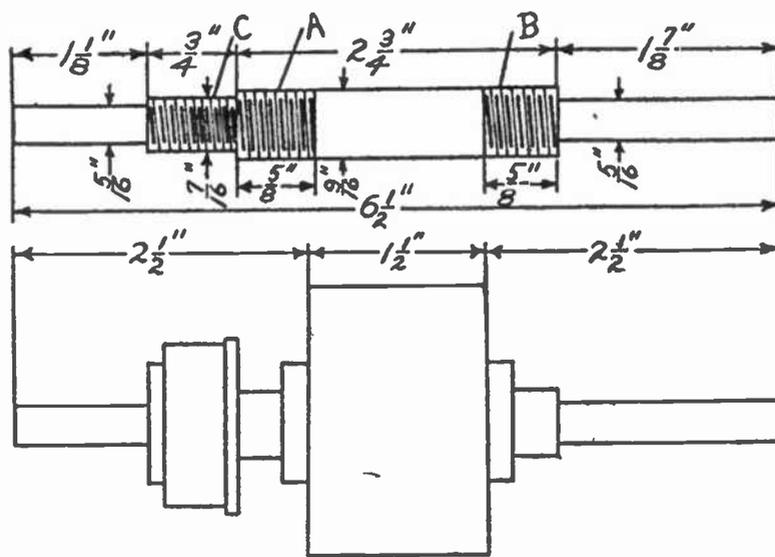
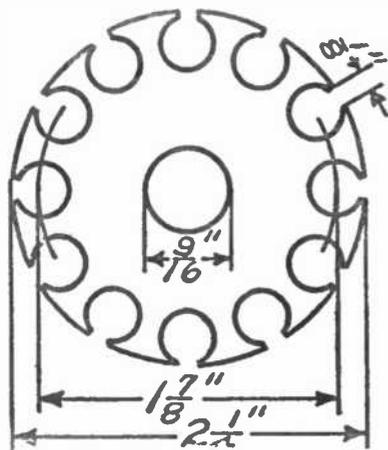

Fig. 8.—Steel Shaft for Armature.
Fig. 9.—Armature Laminæ of Sheet Steel.
*B*, Fig. 8, 12 threads per inch for a distance of  $\frac{5}{8}$ -inch. Procure two blank hexagon nuts and tap them  $\frac{9}{16}$ -inch 12 threads per inch.
The armature laminæ, Fig. 9, are made of No. 29 sheet steel. Cut enough  $2\frac{1}{2}$ -inch discs to make a stack
a hacksaw frame, to secure the proper width of cut. The armature discs will then appear as in Fig. 9. The shaft is completed by turning it to the dimensions, Fig. 8, and threading the portion *C* for the commutator, 14 threads per inch, for a distance of  $\frac{1}{4}$ -inch from the end.